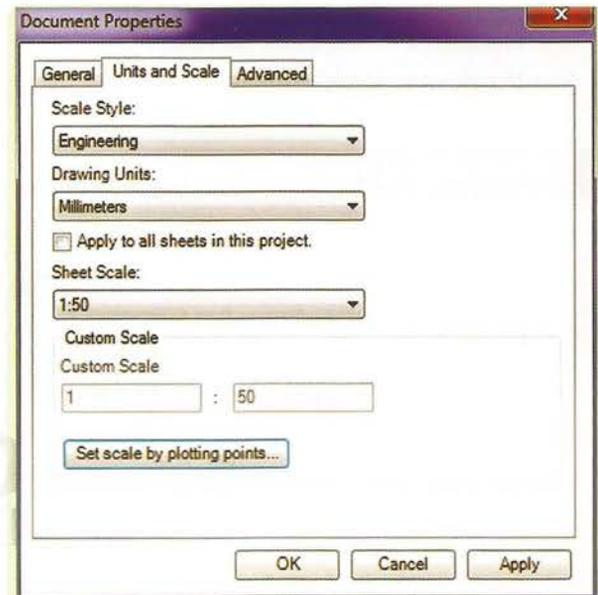

Fig 50: Units and Scale for an Image file
- Sheet Scale = <select the suitable scale> and click OK (Figure 50).